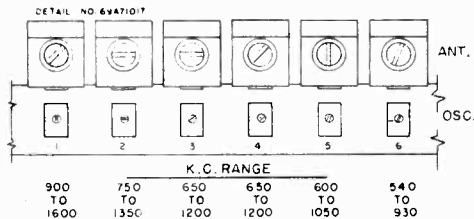

FIGURE 3. PUSH BUTTON SET-UP DETAIL
6. Push the button to be set up, making sure to select a button having the proper frequency range to include the station you are setting. See Figure 3.